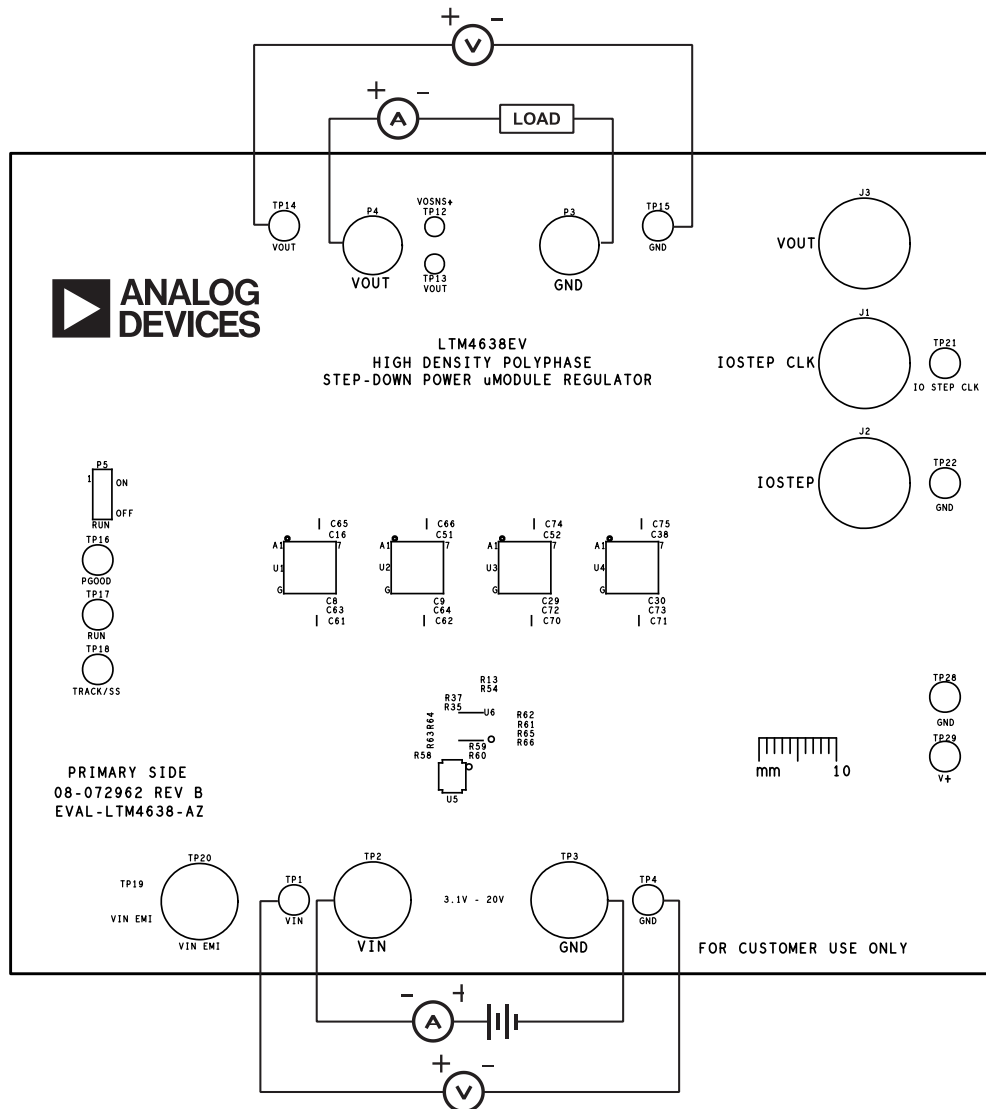

Figure 2. Test Setup of EVAL-LTM4638-AZ
The EVAL-LTM4638-AZ evaluation board is an easy way to evaluate the performance of four parallel LTM4638 ICs. See Figure 2 for test setup connections and use the following procedure.
2. With the power off, connect the input voltage supply between TP2 and TP3. Connect an electronic load between P4 and P3. Connect one DMM between TP1 and TP4 and the second DMM between TP14 and TP15, as shown in Figure 2. Preset the load current to 0A.